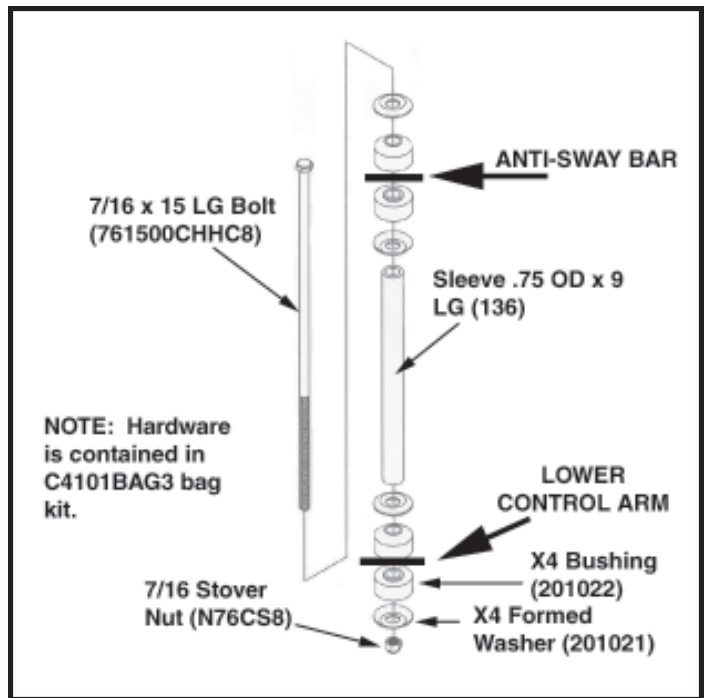

Fig. 21
- (2) 3/8-16 LOCKNUT
23. Reinstall existing sway bar to lower control arm using sway bar sleeve (136) and hardware provided. Fig. 21